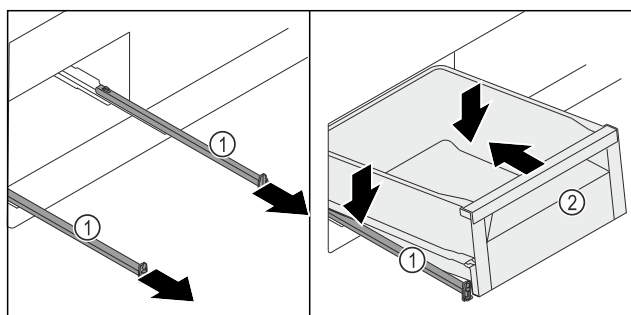

Fig. 124
- ▶ Pull out the rails Fig. 124 (1).
- ▶ Hold the rails Fig. 124 (1) firmly and place the drawer Fig. 124 (2) diagonally from above onto the rails Fig. 124 (1).
- ▶ Push the drawer Fig. 124 (2) on the rails Fig. 124 (1) to the back as far as it will go.